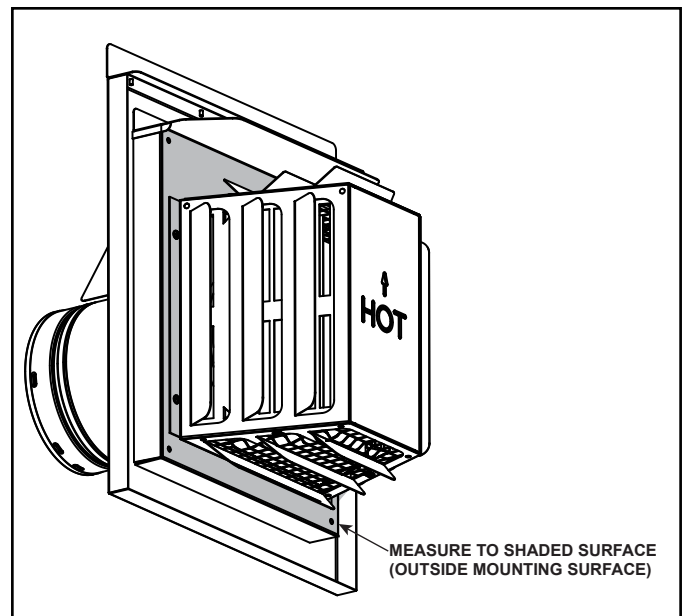

Figure 4.9 Measure to Outside Mounting Surface ←
- Horizontal terminations are measured to the outside mounting surface (flange of termination cap). See Figure 4.9.